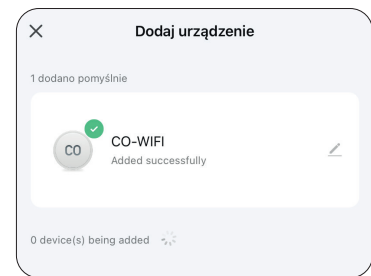

Fig. 8
- After several seconds, the sensor should be added which is confirmed by a message as in Fig. 8.